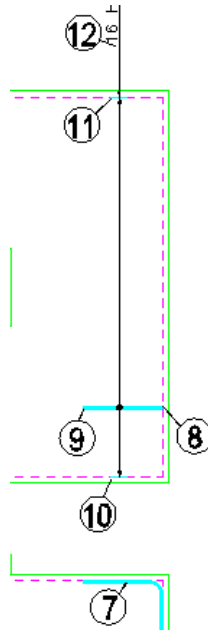

Figure 4.7.15:2 Second Single Indicator Range Placing Order
- Repeat the CADS RC → Draw Range → Add View or  command and add the range of the right hand Shape Code 21 (shown by point 7) to the Plan View, as shown in figure 4.7.15:2 below